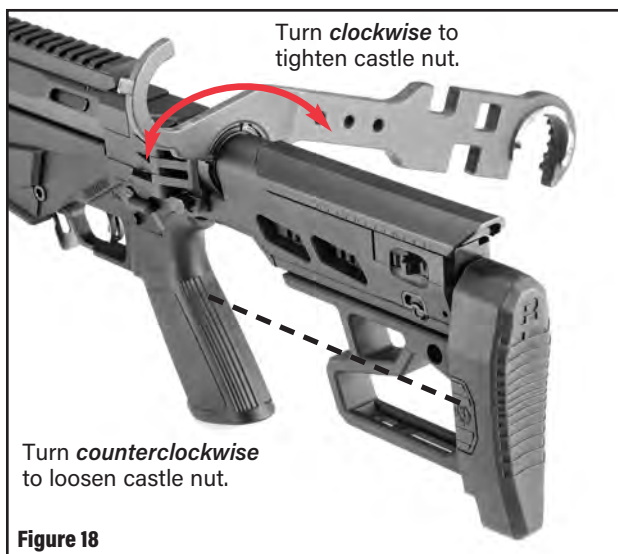

Figure 18
11. Tighten the castle nut against the stock mount back. (See Figure 18.)
When tightening the castle nut, be sure the buttstock is aligned with the grip before tightening the castle nut all the way. (See Figure 18.)
6. Loosen the castle nut. (See Figure 18 above.)